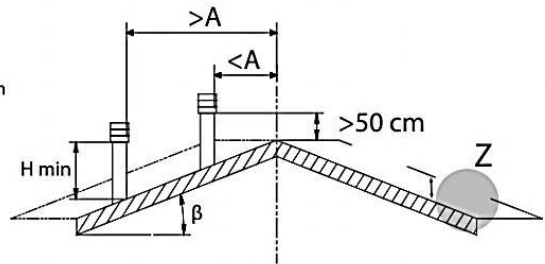

Figure 1
- installed to enable proper dispersion and dilution of combustion products outside the reflux zone (backflow) because the counter pressure occurs here. Therefore, it is necessary to adhere to limitations listed in *Figure 1*,
The chimney must be at least 0,5 meters above the roof ridge (see Figure 1). The minimum distance between the two connections on the same chimney must be 60 cm (Figure 7d).